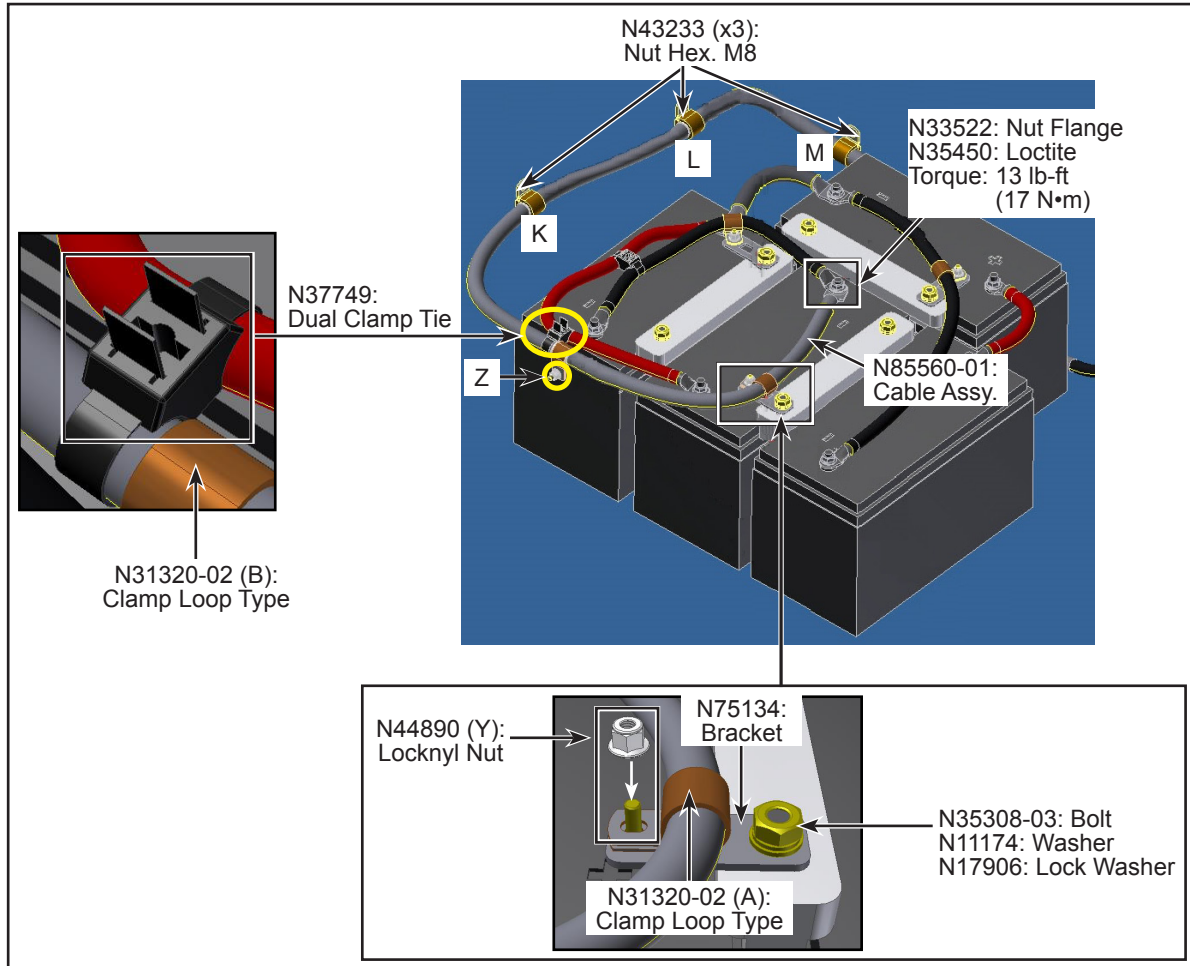

Figure 8 - Typical Installation of Ground Cable Assembly with Accessories
- 1.19. Remove and retain the bolt of hold-down bar with washers for placement of bracket (N75134) (see Figure 8).
- 1.20. Insulate the new cable assy. (N85560-01) and re-route the same (see Figure 8).
- 1.21. Install the bracket (N75134) and new clamp loop type (2x N31320-02: A, B) with hardware. Tighten the locknyl nut (N44890) as per recommended torque (see Figure 8).
- 1.22. Install the retained hold-down bar bolt (N35308-03) with washers (N17906 and N11174) (see Figure 8). Tighten as per recommended torque.
- 1.24. Install and tighten the new flange nut (N33522) to the cable assy. (see Figure 8) as per recommended torque.
- 1.25. Install the new dual clamp tie (N37749) (see Figure 8).
- 1.26. Install the retained clamps (x3 : K, L, M) with new M8 flange nuts (3x N43233) and tighten as per recommended torque (see Figure 8).